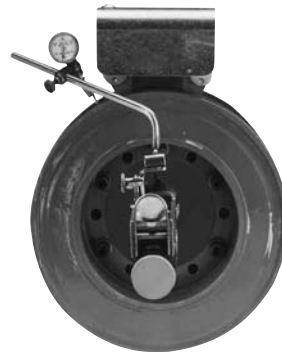

Figure 4
4. Once the unit is in place, it must be square and concentric with the shaft in accordance with the tolerances listed on the drawings. (Figure 4)